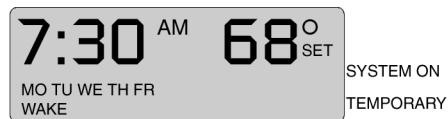

Fig. 30
a. Press  until the desired program is displayed (Fig. 30).